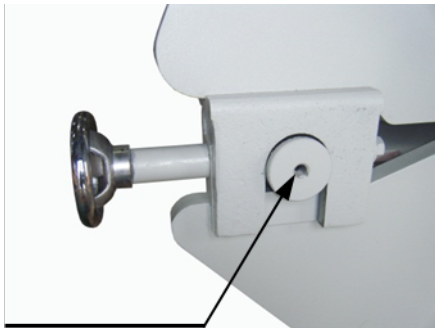

Figure 7-5
2. Rotate the setback knobs counter-clock wise (**ccw**) to move the fingers toward the edge of the clamp block or clockwise (**cw**) to move them back. (fig. 7-5).